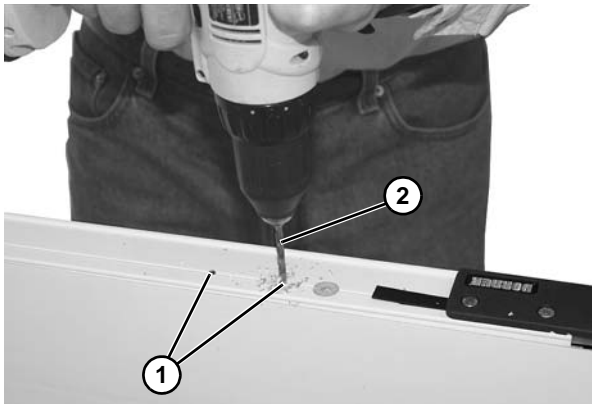

Figure 20
2. Drill the hole locations (**Figure 20, item 1**) with a 3/16" drill bit (**Figure 20, item 2**).